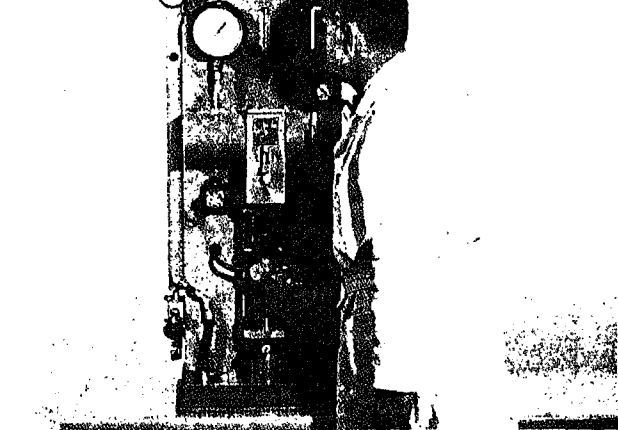

Fig. 6-1-83. Check cc delivery in vial
24. When delivery is correct (Fig. 6-1-83) remove the inlet section and drain connection.